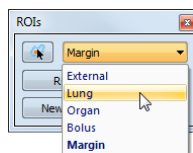

Figure 160 – Select current ROI in TomoCon
- Select an ROI from the **ROIs** drop-down list in the **ROIs** tool in the tools panel (see Figure 160).